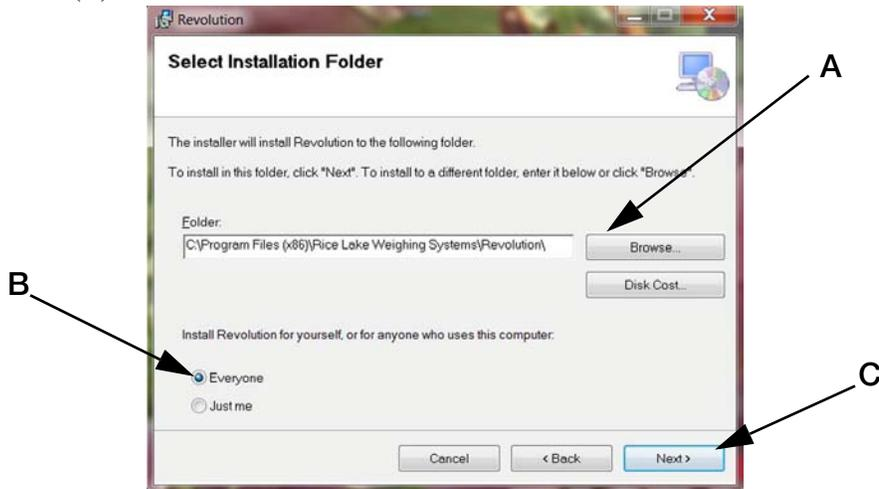

Figure 4-6. *Select Installation Folder*
5. Next screen is the *Select Installation Folder* (Figure 4-6), select path to save to (A) and who can use it (B). Click Next (C).